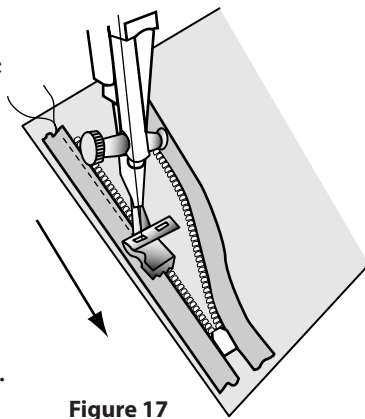

Figure 17
5. Fit the zipper coil in the groove of the zipper foot. If using a conventional zipper foot, position foot and needle to stitch very close to flattened coil. Stitch from top to bottom. (Figure 17)